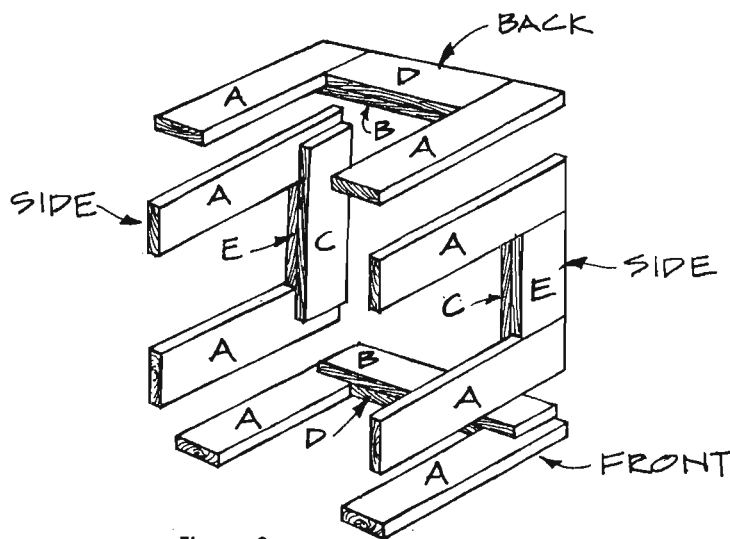

Figure 3
6. The next step is to join the front, back, and sides. Attach the two sides to the front as shown in *Figure 3*, making certain that the legs are flush on both the top and bottom. Then attach the back to complete the frame. The side assemblies overlap the exposed ends of the front and back assemblies. Wipe glue on the adjoining edges, and, to make a solid connection, place a screw about every 6 inches at each joint.